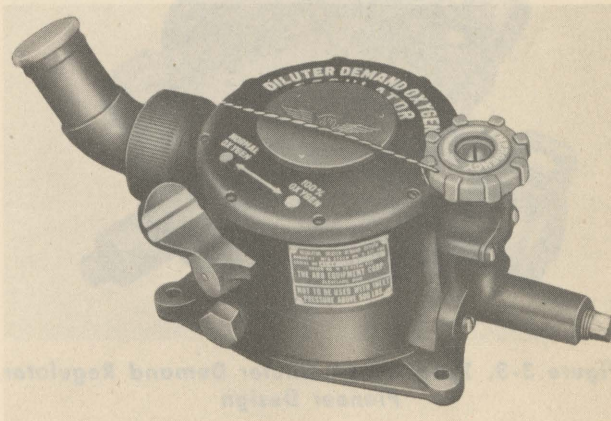
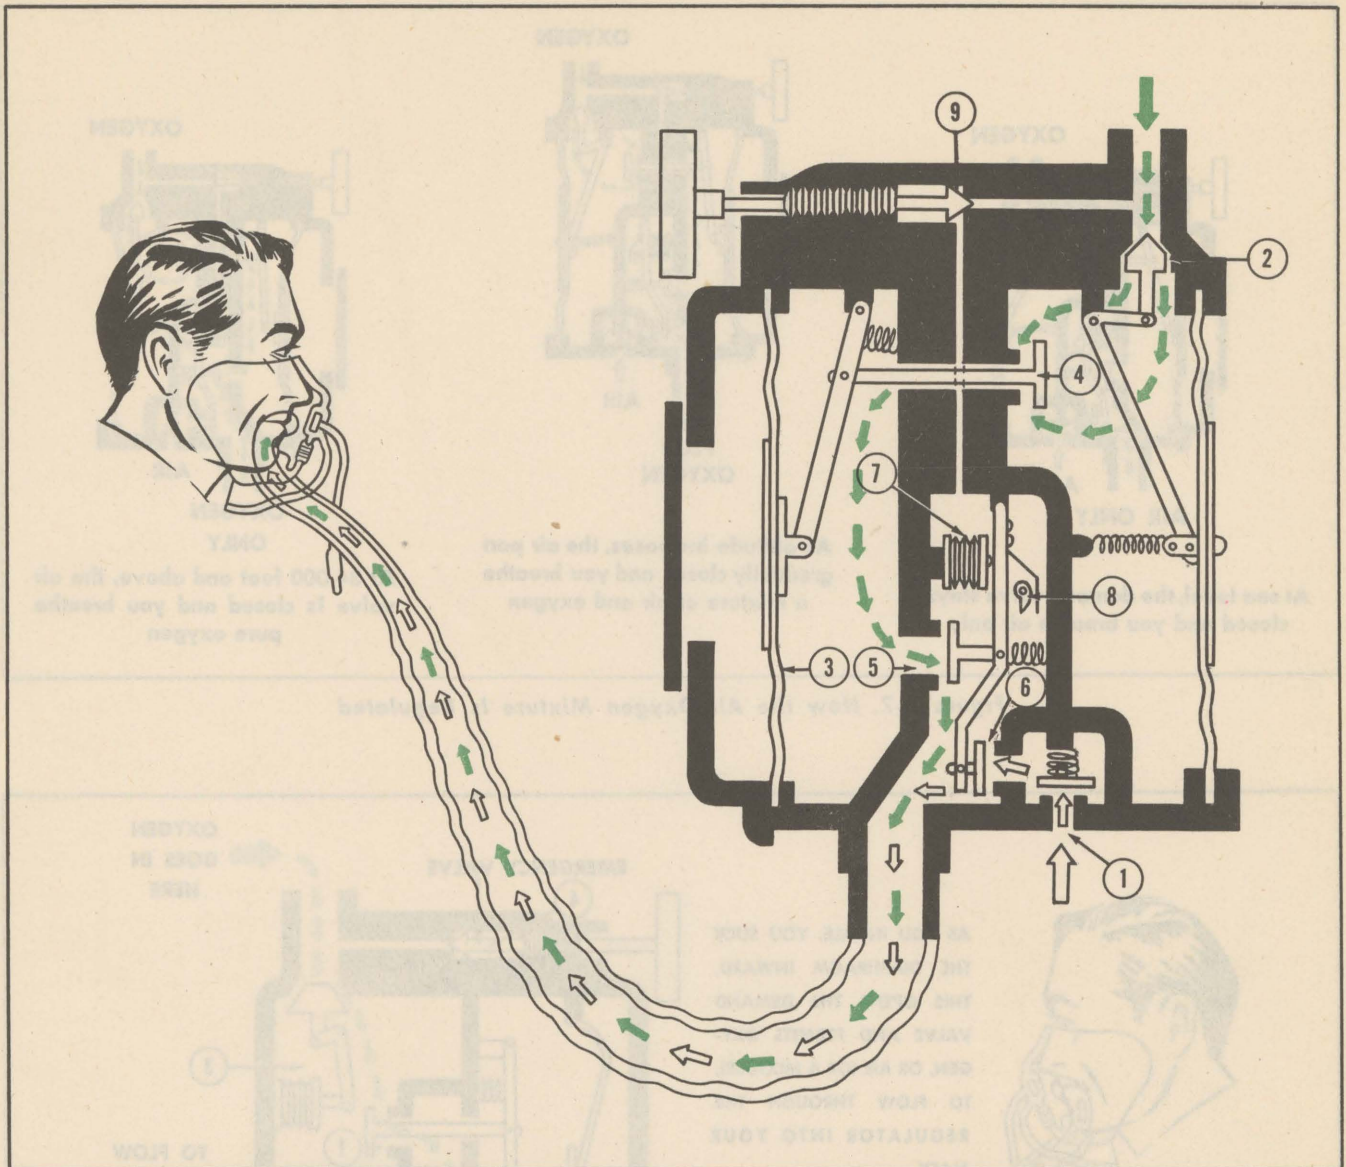

Figure 3-2. Type A-12A Diluter Demand Regulator, Aro Design
Figure 3-6. Normal Operation of the Aro Design A-12A Regulator
**3-11. ARO DESIGN.** (See figure 3-2.) Regulators of this design are made by several manufacturers. A schematic diagram is given in figures 3-6 and 3-7. Green arrows represent oxygen; white arrows represent air.
**3-12.** At altitudes up to about 34,000 feet, air enters the regulator through an inlet provided with a check valve (1). Oxygen enters through a pressure reducing valve (2). Each time you inhale, the slight suction of your breath pulls the diaphragm (3) inward, and opens the demand valve (4). Oxygen then follows